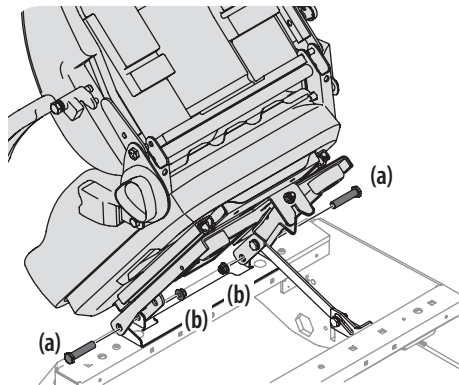

Figure 7
1. Remove the two flange lock nuts (b) and shoulder bolts (a) from the manual bag. See Figure 7.
2. Place the seat into position and secure the seat into place with the hardware as shown in Figure 7.